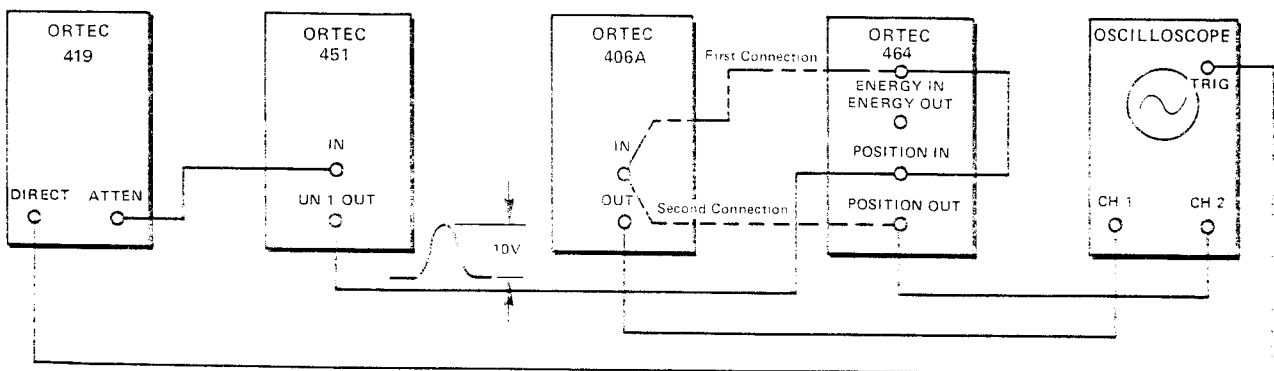

Fig. 6.1. Test Setup for Final Calibration.
1. Connect the equipment as shown in Fig. 6.1.